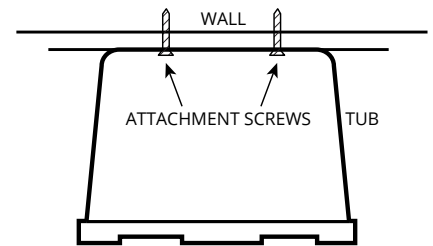

Figure 2: Top Down View Screw Installation
3. Place cabinet in position level to floor, and mark location of attachments on studding using 1/4" (6.35 mm) holes as marking guides. Cabinet must be attached by at least 4 points, 2 of which must be in framing members (figure 2). See page 3 for mounting hole templates.